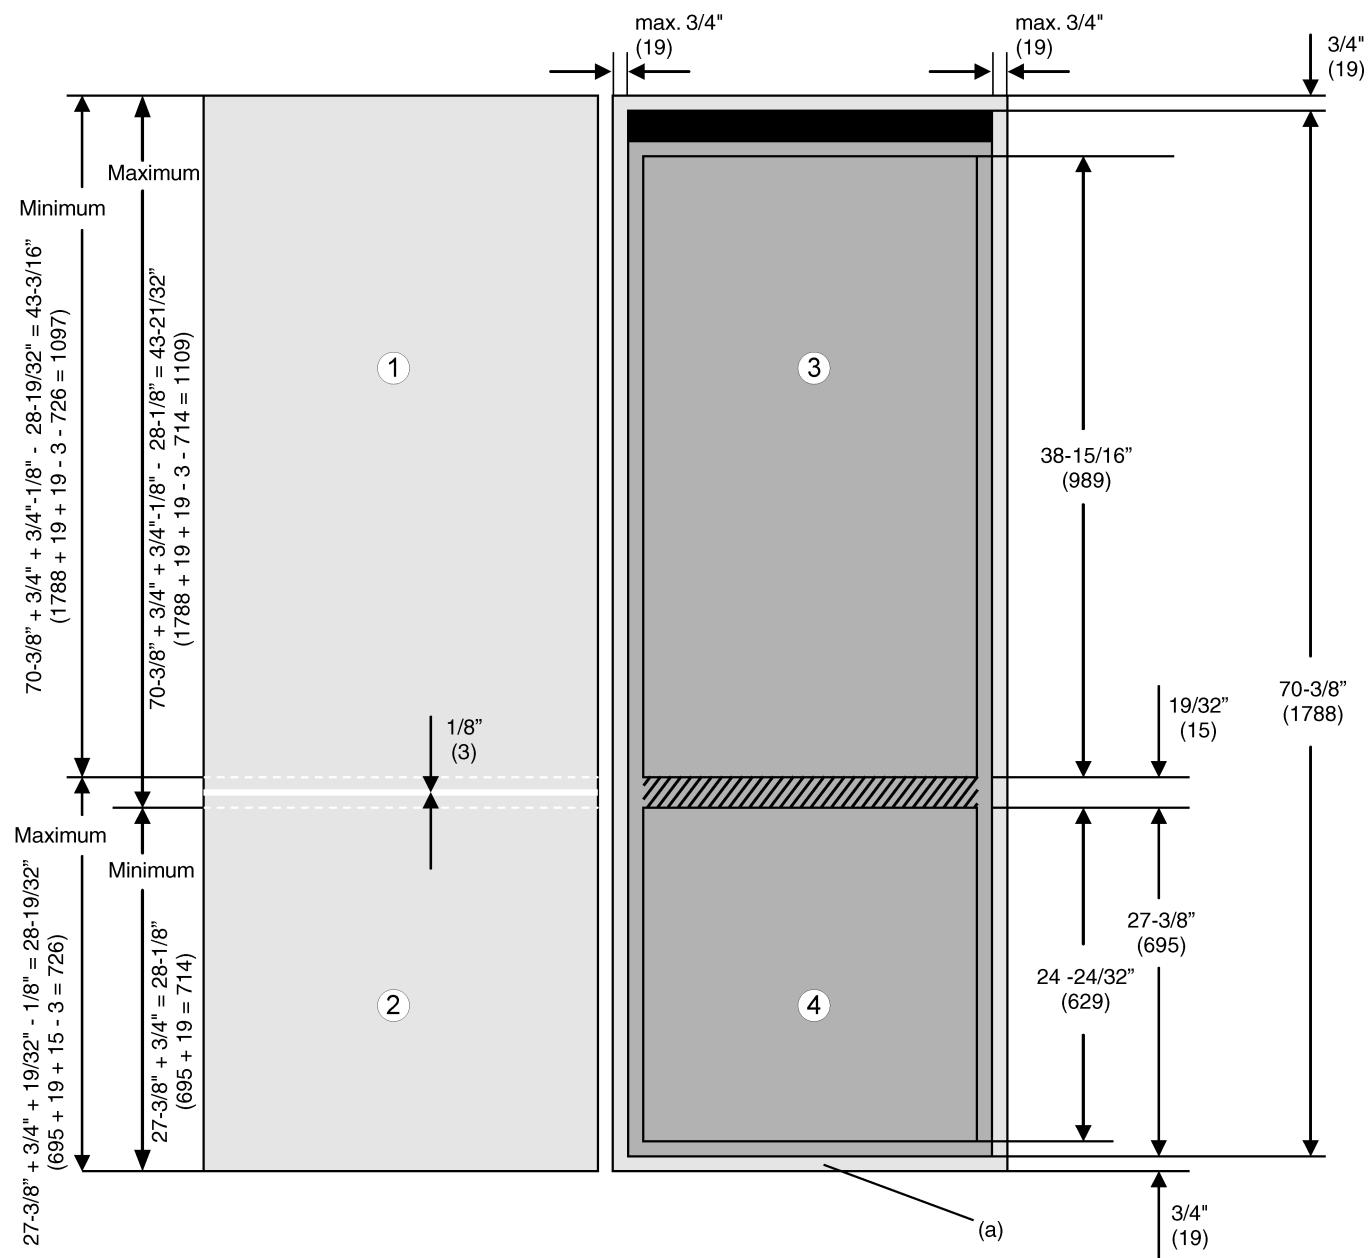

Fig. 3
- In order to cover the front of the floor plate Fig. 3 (a): extend the plate height to 27-3/8 in. + 3/4 in. = 28-1/8 in. (695 mm + 19 mm = 714 mm).
If no cabinet doors have yet been fitted the gap between the freezer section door Fig. 3 (4) and the fridge section door Fig. 3 (3) is 19/32 in. (15 mm). After the cabinet doors have been fitted the gap between the two doors Fig. 3 (1,2) is about 1/8 in. (3 mm) and must be inside the hatched area.